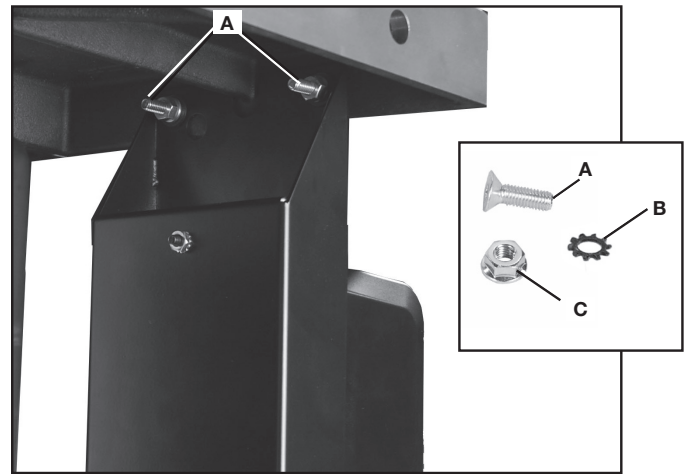

FIG. 8
1. Insert two 5/16-18 x 1" flat head hex socket screws (A) Fig. 8 through holes in front of wing and then through switch mounting holes.
2. Place two 5/16" external tooth washers (B) Fig. 8 on the screws and secure screws from under the extension wing using two 5/16-18 flange nuts (C).